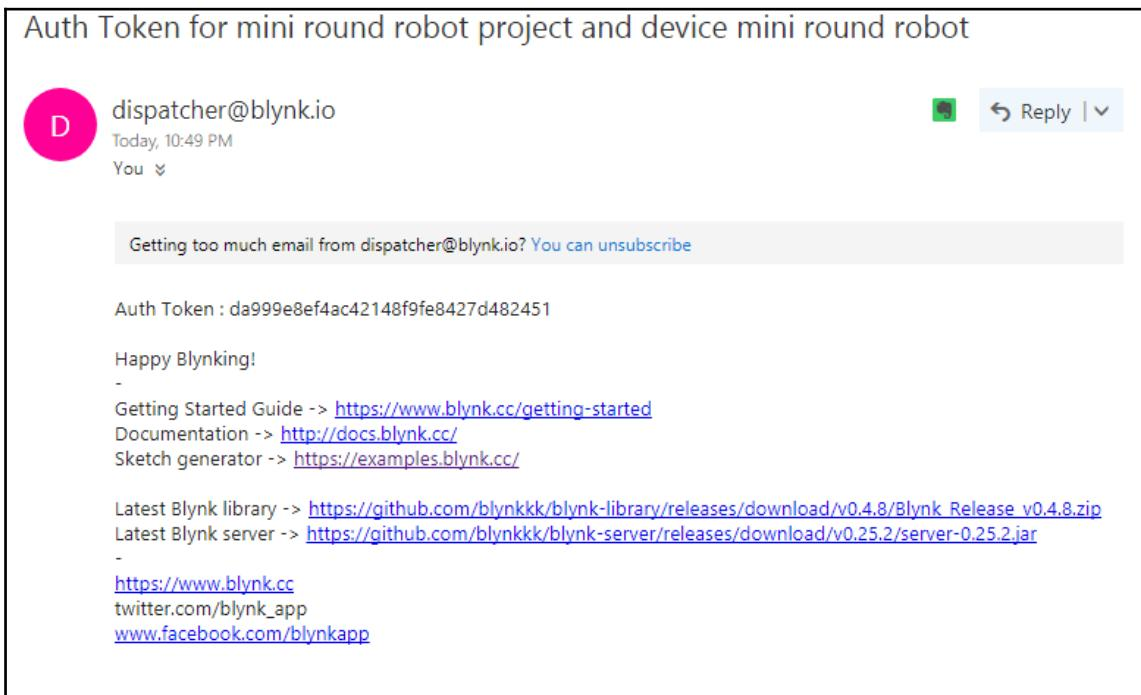

Figure 2.23: Auth Token for the project
5. After the project has been created, you will get your **Auth Token** via email. Check your email inbox and find the **Auth Token** (Figure 2.23):